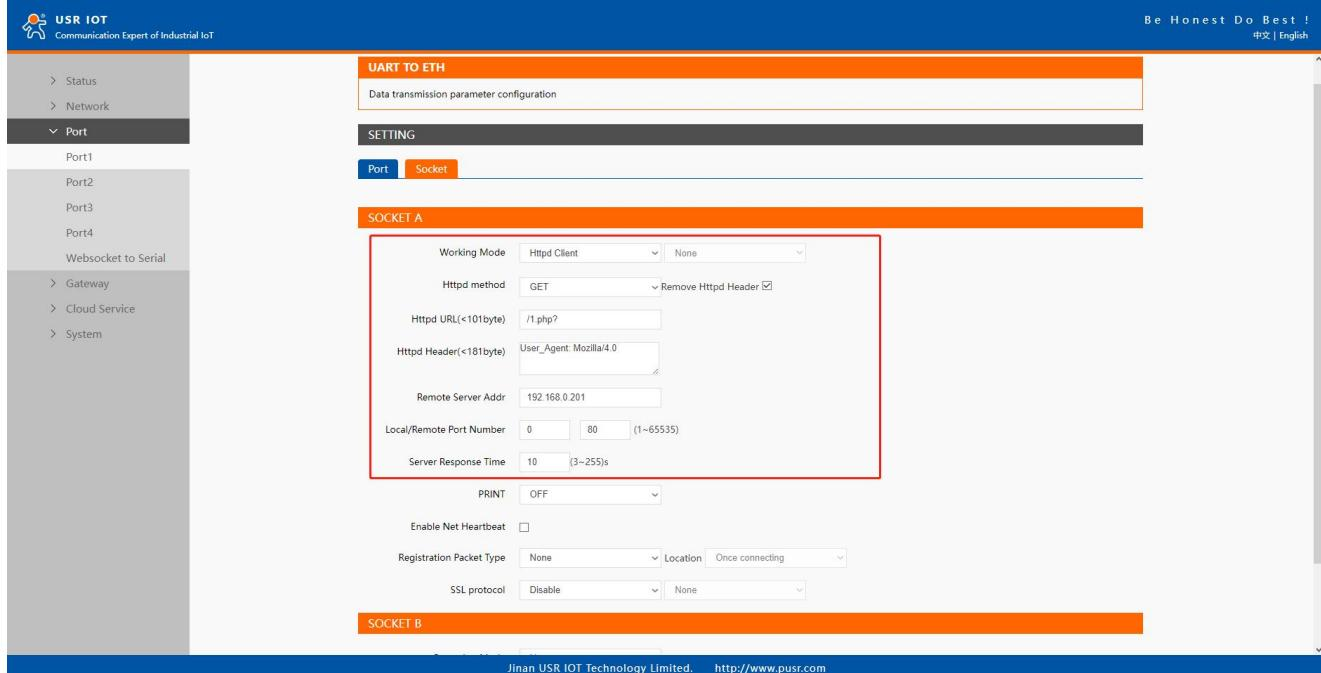

Fig. 60 HTTP client mode
Fig.60 shows an example of configuration setting for HTTP Client working mode under the Port1 socket page. You can configure other serial ports in the same way.
1. Click on the “Port1” tab on the menu frame on the left side of Web UI to go to Port1 page as shown in Fig.60.